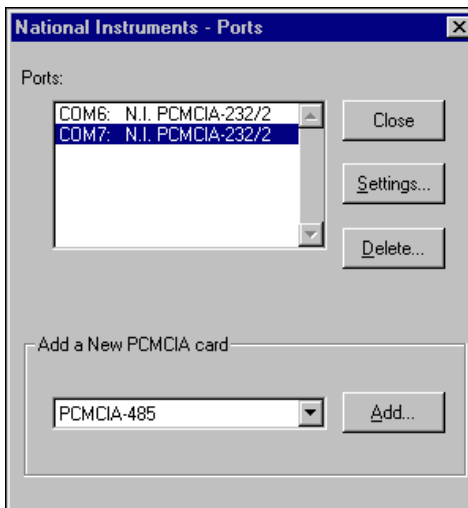

Figure 5-10. niports Configuration Utility
1. Select **Start»Settings»Control Panel** and double-click the **niports** icon. A list of National Instruments ports appears, as shown in Figure 5-10.